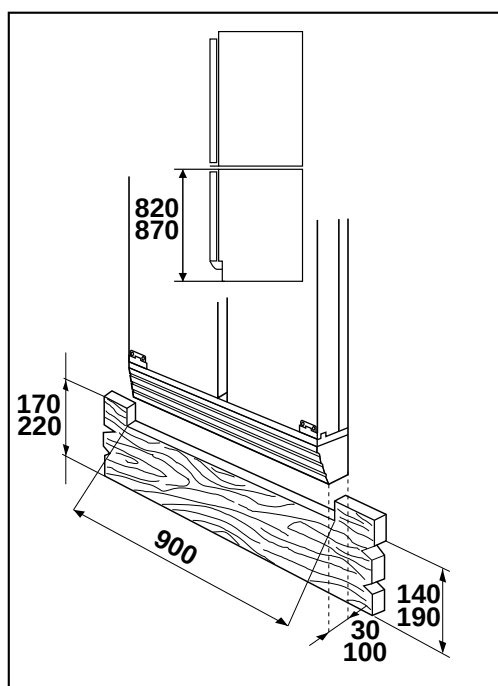

Fig. 17
- If using a 140 to 170 mm plinth, make a cut-out as shown (Fig. 17).
- If using a 190 to 220 mm plinth, make a cut-out as shown (Fig. 17).